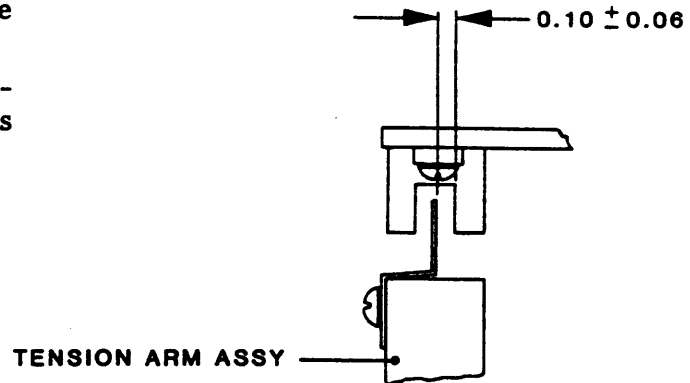

Figure 5-13.
5.3.17 TAKE-UP ARM LIMIT SENSOR (Figure 5-13)